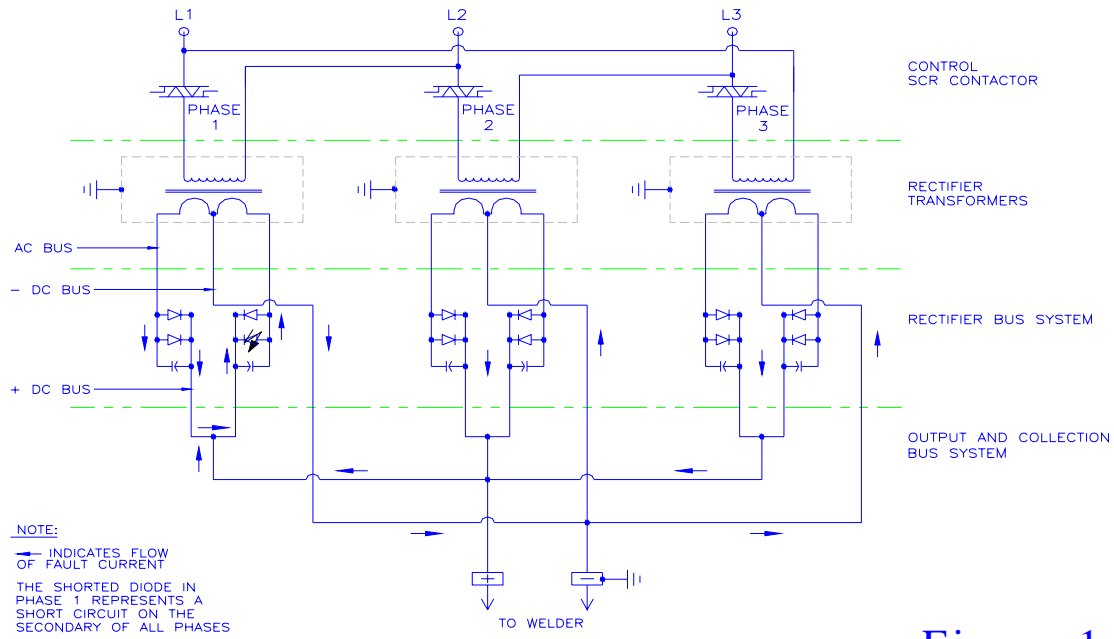

Figure 1
1. Figure 1 (page 6) shows a DC Power Supply with a shorted diode in one leg of the rectifier.
Note: Figures 1 through 4 are generic diagrams to show the location of the faults discussed in this procedure.
- a. A shorted diode or diodes (Figure 1)